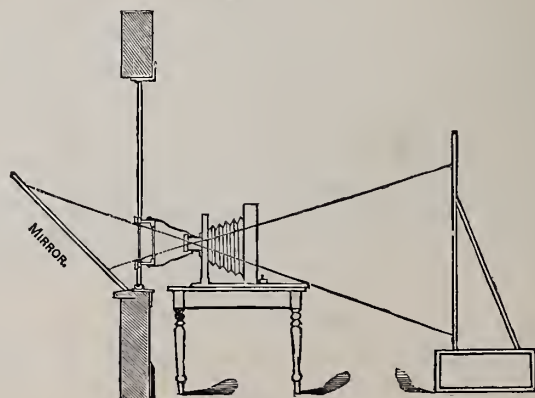

FIG. 1.
The operation of enlarging on Permanent Bromide Paper involves the same principles as making a negative; it is simply photographing, on a large scale, the negative instead of the original. To avoid the necessity of using a large camera the dark-room itself is made to take the place of the camera body, and the negative is placed in an opening in the dark-room shutter, so that all the light will come through it to the lens. See Fig. 1.
Fig. 1 represents an enlarging apparatus that any photographer can improvise from ordinary apparatus and material, with the expenditure of a few hours' time. To construct it proceed as follows:—
the negative; when the negative is in position it will be brilliantly illuminated against the ground glass. Now, on a table or shelf, adjusted in front of the negative box, place an ordinary camera having the ground glass removed, point the lens toward the negative, and connect the lens and negative-box by means of a bag of opaque cloth, open at both ends and provided with elastic bands to close it tight around the lens and negative-box. This will prevent any light coming into the dark-room except through the lens. See Figs. 1 and 2.
When the camera is set up for daylight, unless it commands an unobstructed view of the horizon, a reflector of white cloth or paper, or better still, the mirror, as suggested before, should be arranged outside the window, so as to throw the light from above on to the ground glass. In Fig. 1 the reflector is shown rather small in proportion, and too close to the outside wall; it is shown better in Fig. 2. To ascertain whether it is in its proper place take out the lens and examine the ground glass from inside the dark-room; if it appears evenly illuminated it is sufficient. No harm will result if the sun shines on the ground glass and reflector, provided it strikes evenly; if the light is too strong, the lens can be stopped down; when a mirror is used, it should be covered with white paper when the sun strikes it.
*Don't* expect that the light reflected from a red brick wall will be sufficient for enlarging. Unless your enlarging window has an unbroken horizon use a reflector, Figs. 1 and 2.